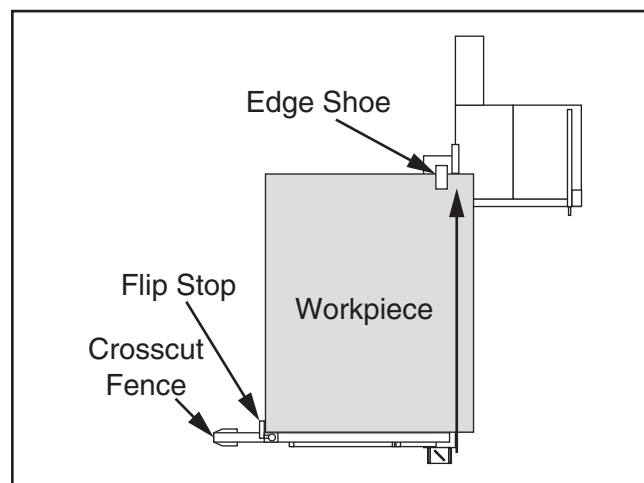

Figure 100. Rip cut with sliding table and crosscut fence.
The Model G0820 has the capability of rip cutting large panels (see **Figure 100**). The sliding table removes the burden of sliding a large and heavy panel over a stationary table surface.
The edge shoe (see **Figure 100**) is used to stabilize the front end of a workpiece when otherwise unsecured.
5. Load workpiece onto table saw. Setup should look similar to **Figure 100** on **Page 51**.